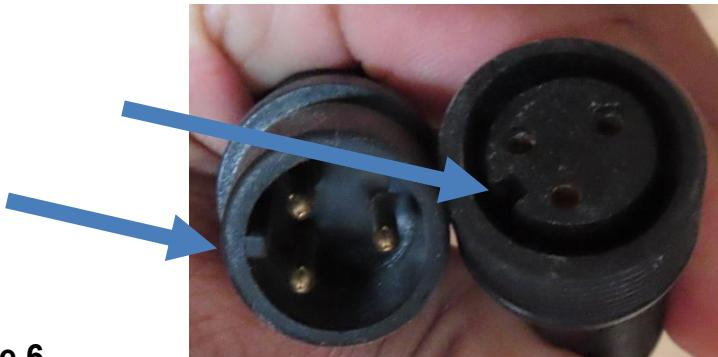

Figure 6
1. First, you will want to connect the cord connections to their respected counterparts that will be behind the BENCH SUPPORT. Make sure that the connections are connected properly per the slot cut out. Additional connections will be made once the BENCH SUPPORT is installed. See Figure 6. Also, you want to locate the thin blue antenna wire at the circuit connection box and uncoil it and stretch it out.